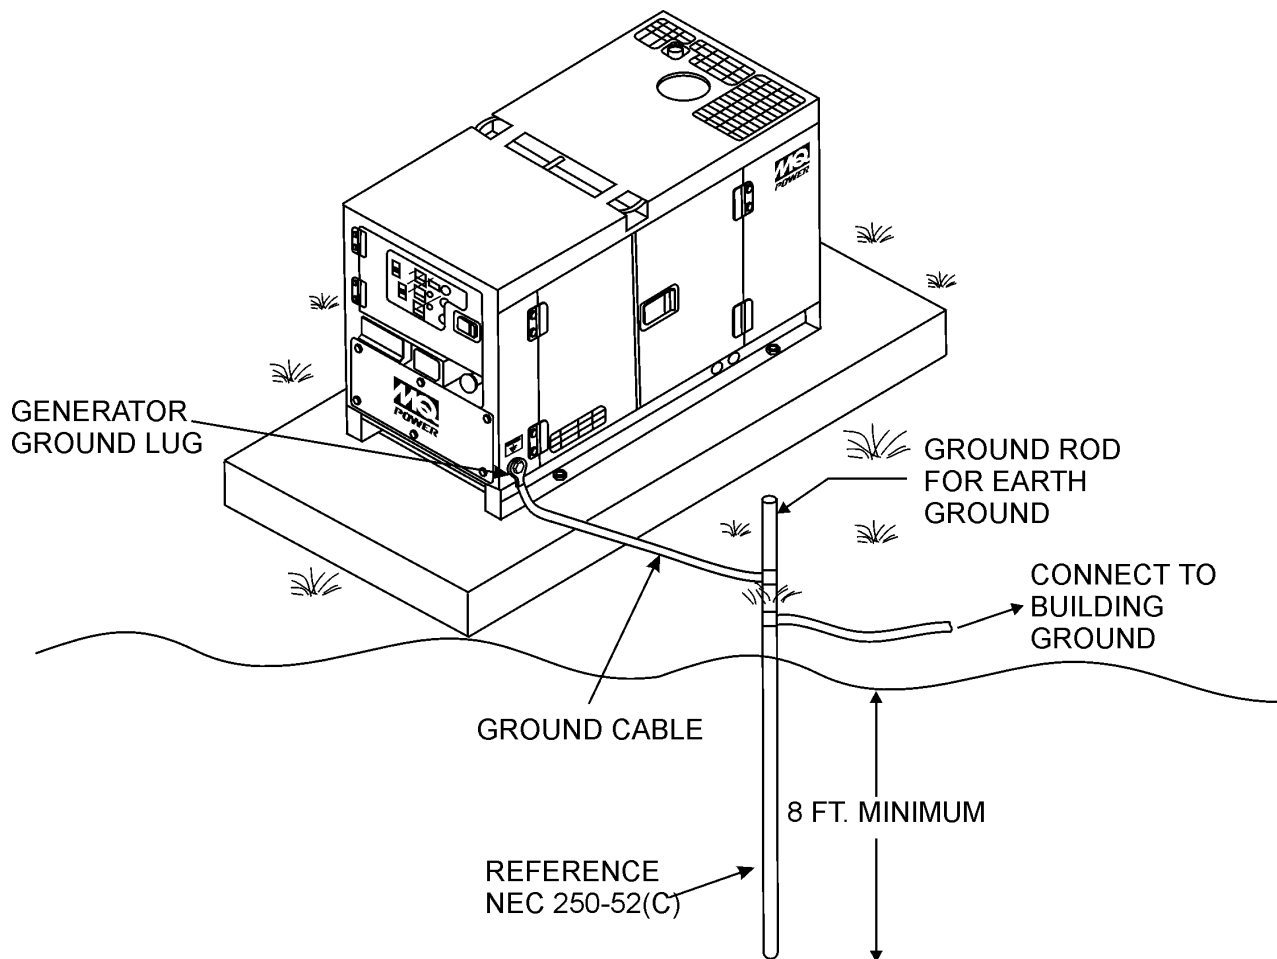

Figure 32. Typical Generator Grounding Application
2. When grounding the generator (Figure 32) connect the ground cable between the lock washer and the nut on the generator and tighten the nut fully. Connect the other end of the ground cable to earth ground.